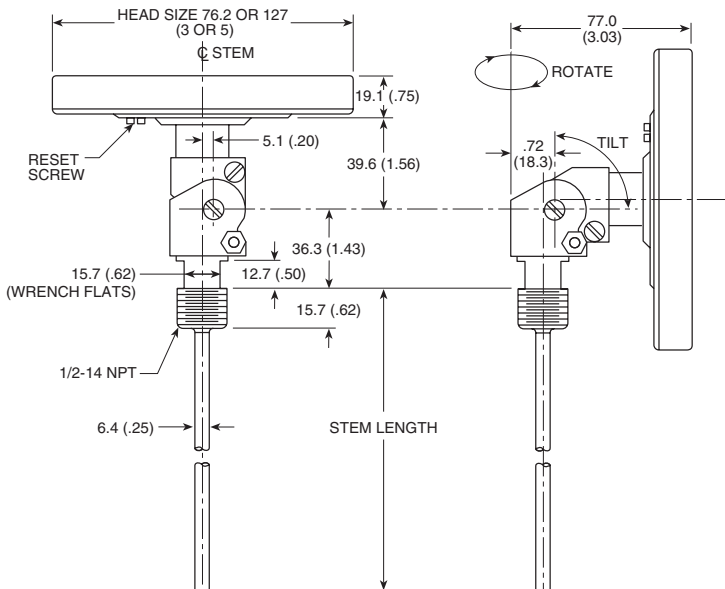

Figure 1. Dimensions Model J
Adjust the angle of the head before installing the Model J Thermometer. Refer to Figure 1 to locate the adjustment screws.
2. Locate the reset screw on the back of the head (see Figure 1).